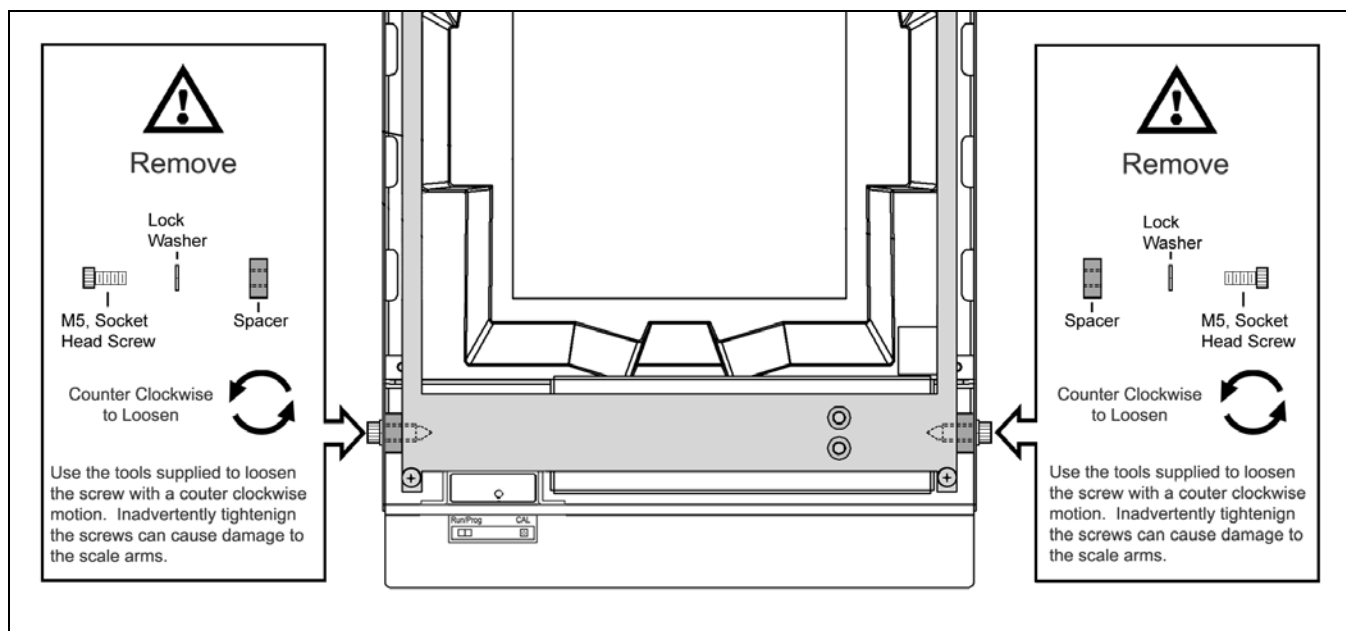

Figure 16. Removal of Shipping Hardware
**Do not discard instruction sheet and shipping hardware!** These items must be reinstalled if the unit is going to be shipped. See Figure 16 for instructions on how to reinstall hardware before shipping.